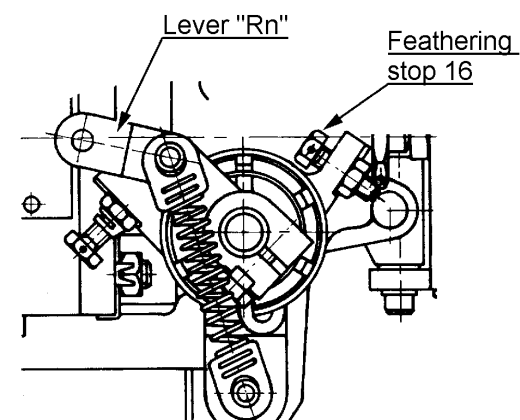

Figure 11-30 Feather stop adjustment
- c) Remove seal and lock wire from the stop **16** - figure 11-30.
- Remove seal and lock wire from the stop **16** - figure 11-30.